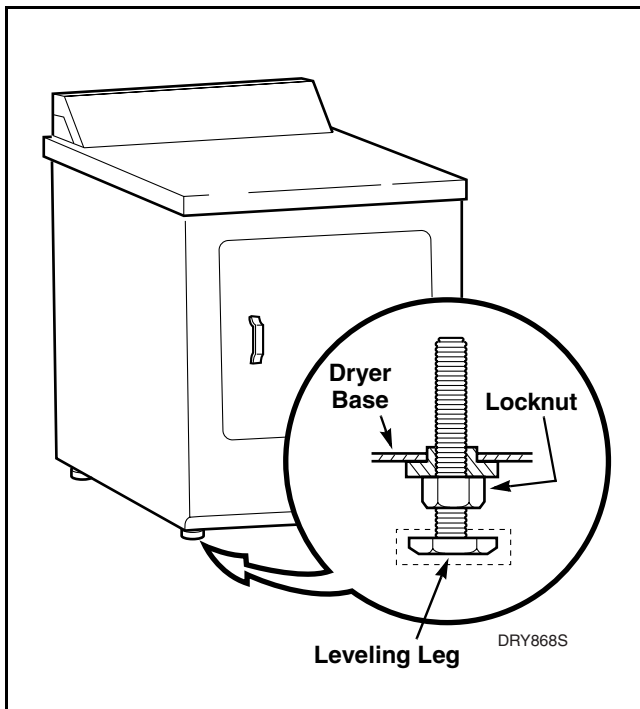

Figure 32
- Thread locknuts down to heads of leveling legs, then thread legs into dryer base until heads extend out of base approximately 3/4 inch (19.05 mm). Refer to *Figure 32*.
- Tighten locknuts securely against dryer base and place rubber pads on each leg. Refer to *Figure 32*.